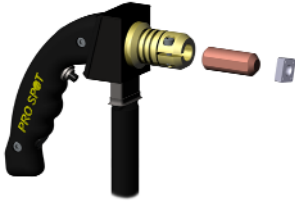

Figure 6.15
2. Fit Single-Sided gun with the Shrink Electrode (*fig. 6.15*).